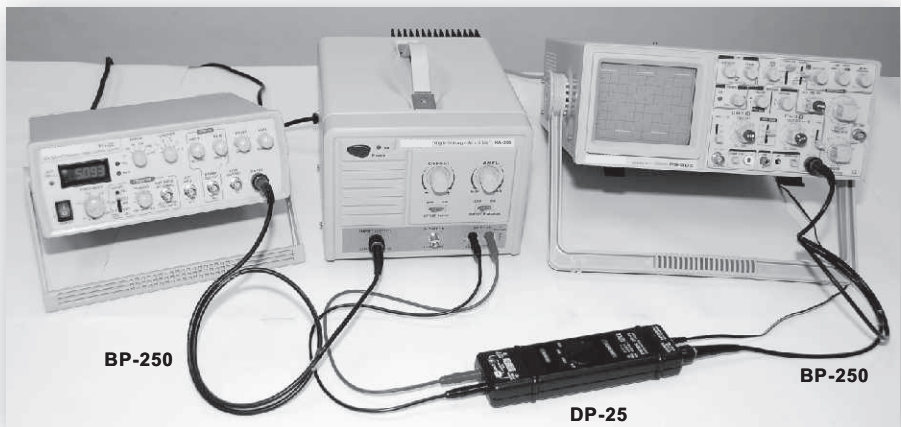

Figure 9.
5.2 Use Function Generator as input, and HA-305 output connects to Differential Probe as interface to transmit signal to oscilloscope to observe. (Figure 9.)